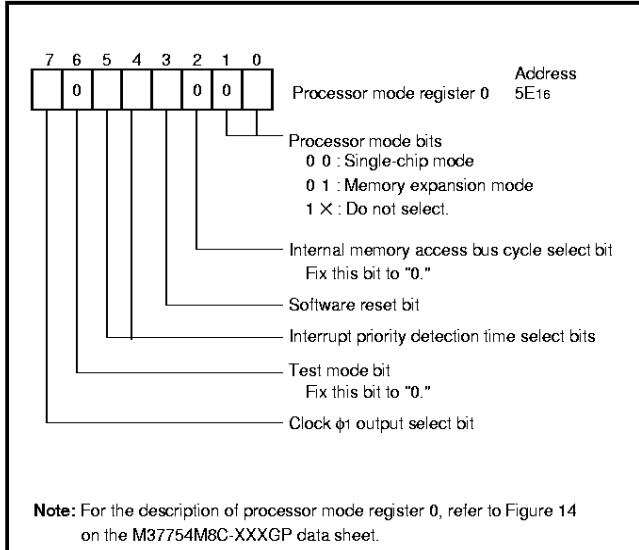

Fig. 23 Processor mode register 0 bit configuration in CPU rewriting mode
Figure 23 shows the processor mode register 0 bit configuration in the CPU reprogramming mode. Set bit 1 to "0" (single-chip or memory expansion mode) in the CPU reprogramming mode. Set bit 2 (internal memory access bus cycle select bit) to "0."
- ① Apply 0 V to the CNVss/VPP pin for reset release.
- ② Set the processor mode register 0 (see Figure 23).
- ③ After CPU reprogramming mode control program is transferred to internal RAM, jump to this control program on RAM. (The following operations are controlled by this control program).
- ④ Set "1" (8-bit length) to data length select flag m.
- ⑤ Set "1" to the CPU reprogramming mode select bit.
- ⑥ Apply VPPH to the CNVSS/VPP pin.
- ⑦ Read the CPU reprogramming mode monitor flag to confirm whether the CPU reprogramming mode is valid.
- ⑧ The operation of the flash memory is executed by software-command-writing to the flash command register.